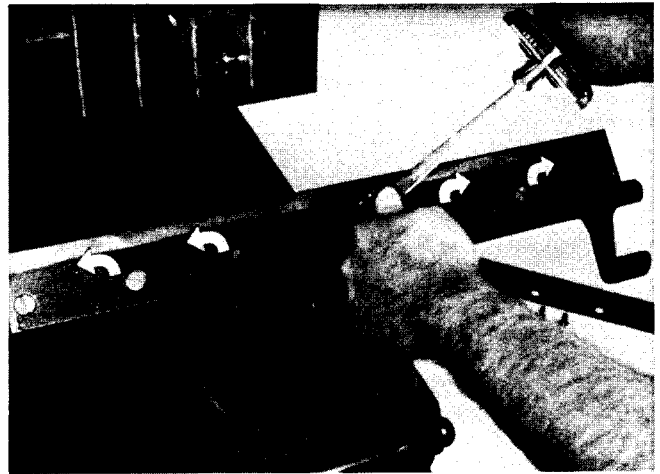

Figure 37
4. Install new bedknife with the proper bedknife screws (57-4910). Bedknife screws must bottom out on bedknife, not bedbar. Tighten screws to a torque of 200 in-lb, working from the center toward each end of the bedbar (Fig. 37).